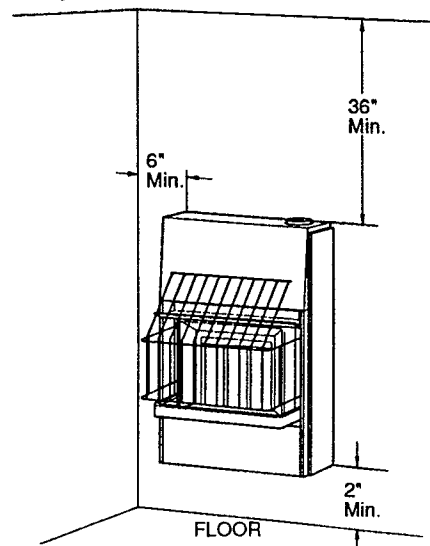

Figure 1 - Clearances
- This heater has been designed for wall mounting. The clearances from the heater to combustible surfaces **MUST NOT** be less than shown in Figure 1. These are absolute minimum clearances and greater clearances should be allowed wherever possible. The minimum floor clearance must be maintained above the top surface of carpeting, tile or other combustible covering. A minimum of 6 inches is required for both sides of the heater.
1. Install the four (4) mounting screws supplied, using the enclosed paper template for proper location of holes. Plastic anchors should be used when mounting heater to plaster walls. Be sure to provide minimum clearances from side walls, floor, and ceiling, as shown in Figure 1.